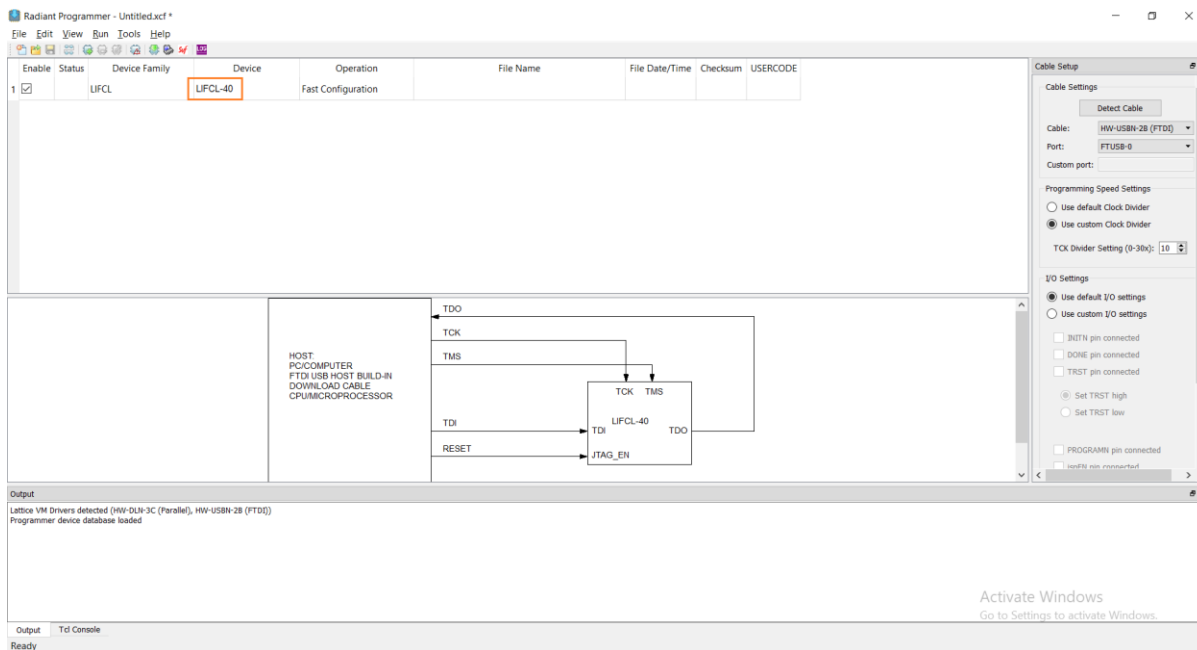

Figure 5.3. Lattice Radiant Programmer Window
4. The main interface opens as shown in Figure 5.3.